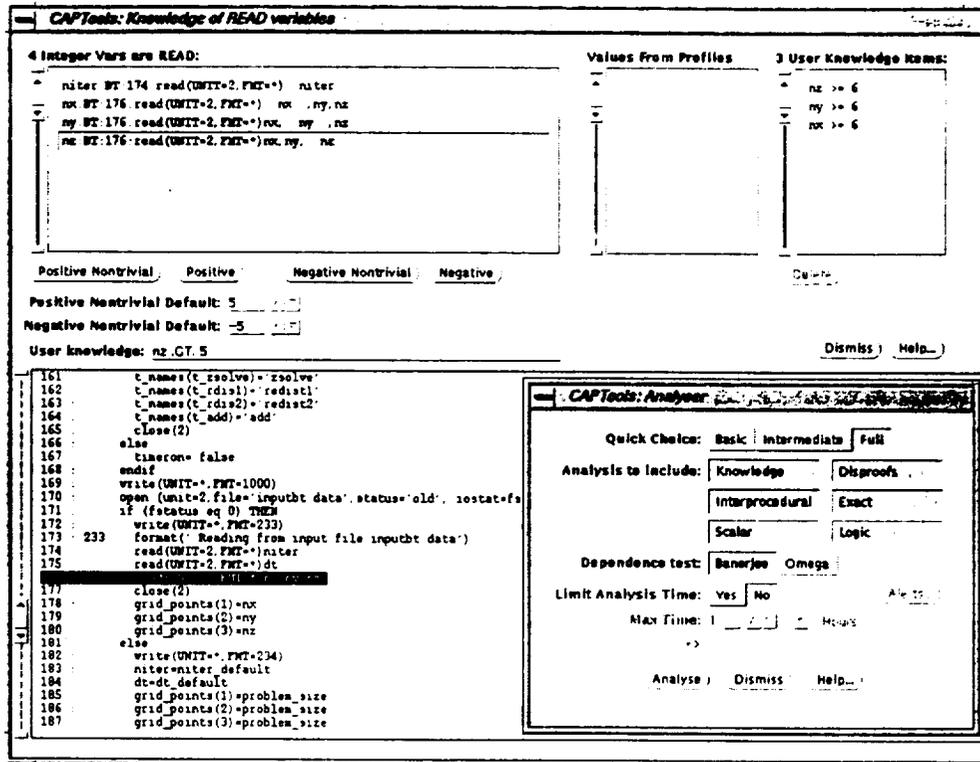

Figure T5-1: The READ Knowledge window for entering user knowledge and the Analyser window.
- 1. Load source and enter user knowledge.** Click *Load F77 Source* in the File menu. Select All.list and click the **Load** button. Select *READ Knowledge* from the Edit menu. In the READ Knowledge window, select variable nx and click **Positive Nontrivial**, see Figure T5-1 on next page. Apply the same steps to variables ny and nz. These three variables define the number of grid points in each dimension. Making them positive nontrivial improves the quality of data dependence analysis in Step 2.